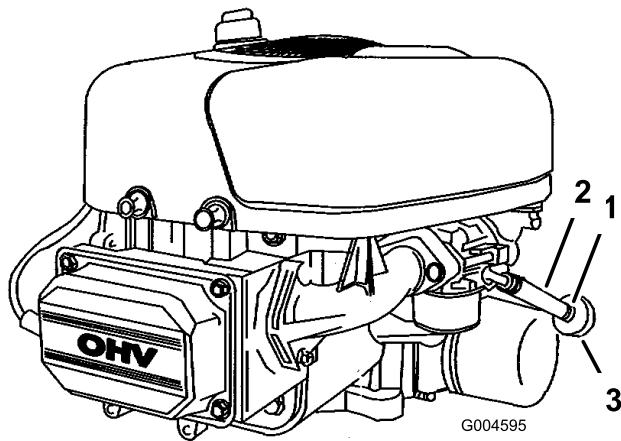

Figure 25
8. Squeeze the ends of the hose clamp together and slide it up the fuel line toward the fuel tank (Figure 25).
9. Pull the fuel line off the fuel filter (Figure 25) and allow gasoline to drain into a fuel container or a drain pan.
Replace the fuel filter after every 100 operating hours or yearly, whichever occurs first. The best time to replace the fuel filter (Figure 25) is when the fuel tank is empty. Never install a dirty fuel filter after it has been removed from the fuel line.
7. Squeeze the ends of the hose clamps together and slide them away from the old fuel filter (Figure 25).